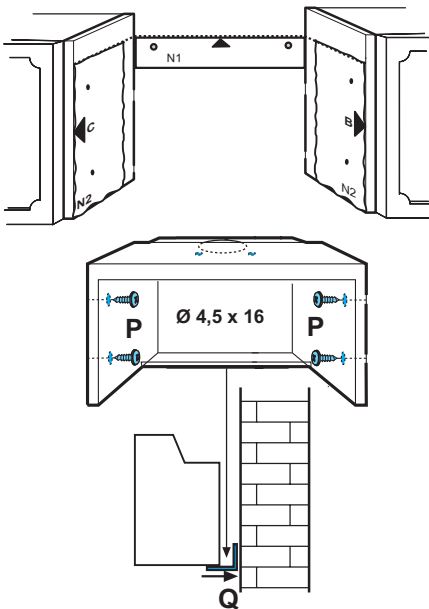

Fig. 11
- Use template **N2**. Position the template on the front edges of the wall unit (right wall unit, B side) – (left wall unit, C side) **WITHOUT CONSIDERING THE THICKNESS OF THE FRONT WALL UNIT DOORS**, and make the holes as indicated. **Fig. 11**
- Fix the hood to the side wall units with 4 screws **P**. **Fig. 11**